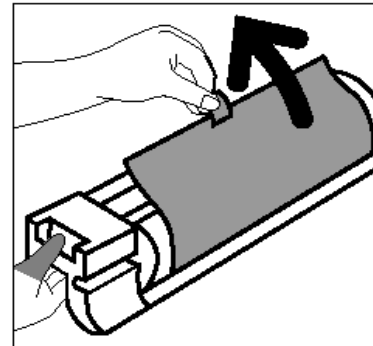

Figure 43: Removing the Protective Instruction Sheet from the Cartridge
- 6 Grab the tab on the Protective Instruction Sheet and pull the sheet out slowly counterclockwise from the Copy/Print Cartridge, as illustrated in Figure 43.